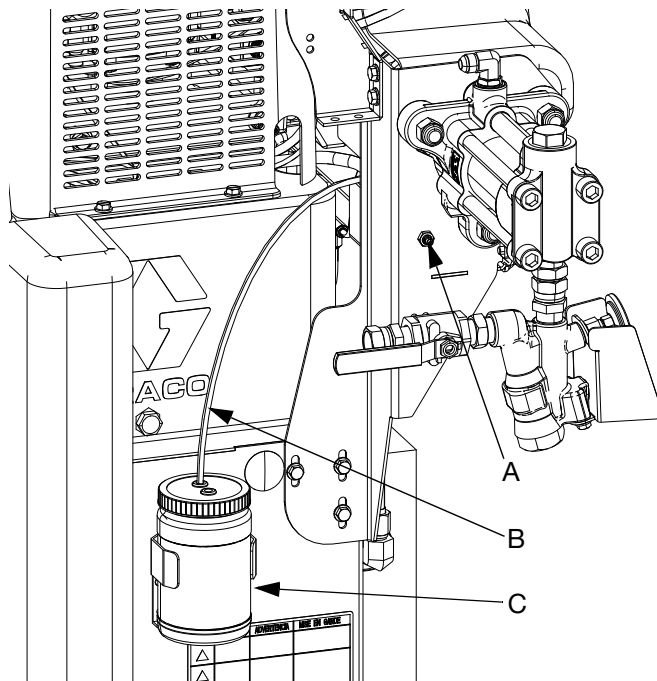

FIG. 19:
1. Locate the grease fitting (A) mounted to the pump bracket near the pump that is being greased.
2. Attach grease gun to the grease fitting. Pump new grease into the pump until fresh grease is observed discharging from grease relief tube (B) into the grease reservoir bottle (C).
3. Repeat for other pump. See FIG. 19.